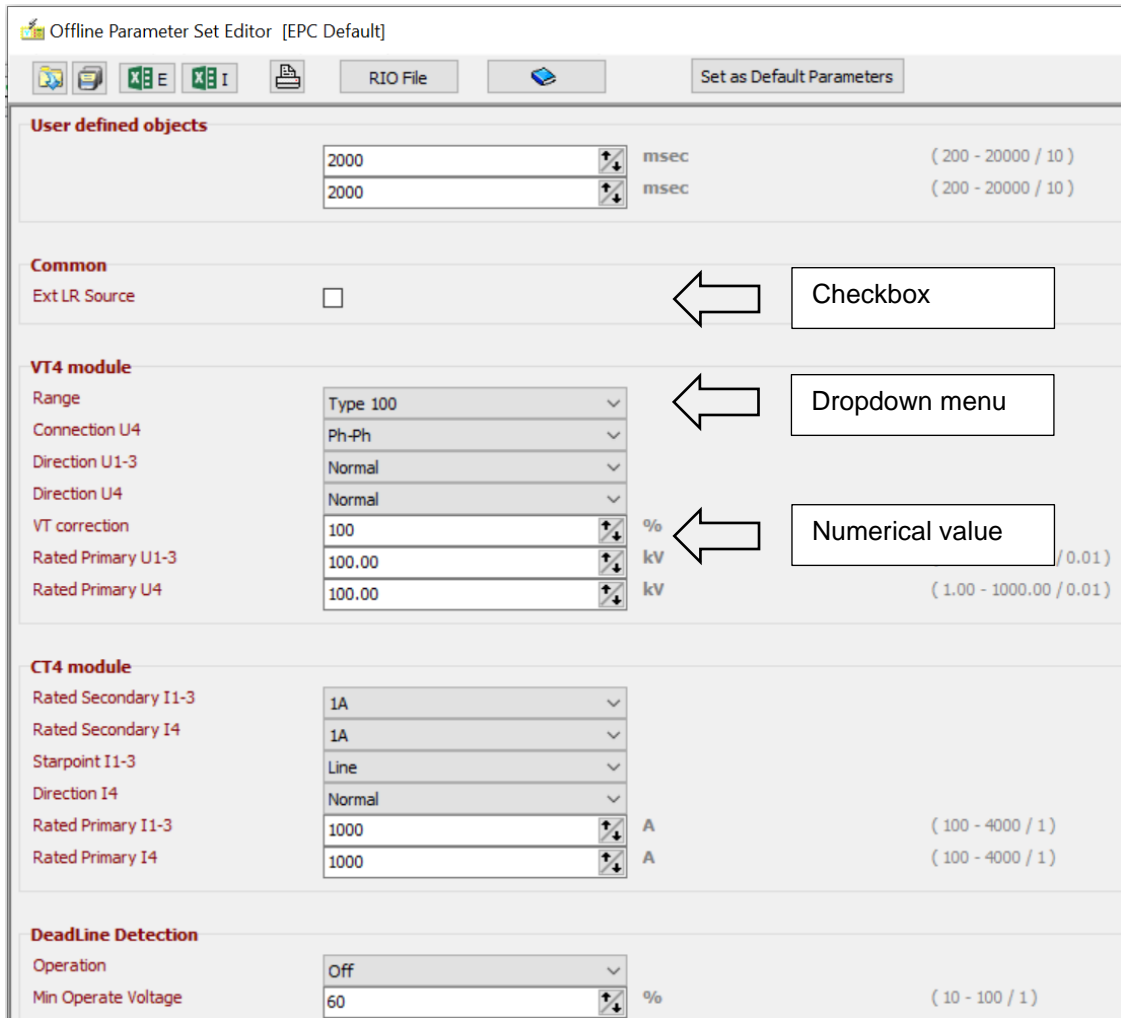

Figure 5-3 Setting methods in the Offline Parameter Set Editor
*Figure 5-3* shows the usual setting methods: